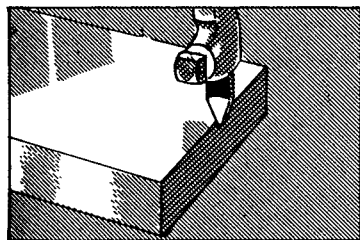

FIG. 483
3. Move the work over until the edge of the tool scrapes the work (Fig. 483).